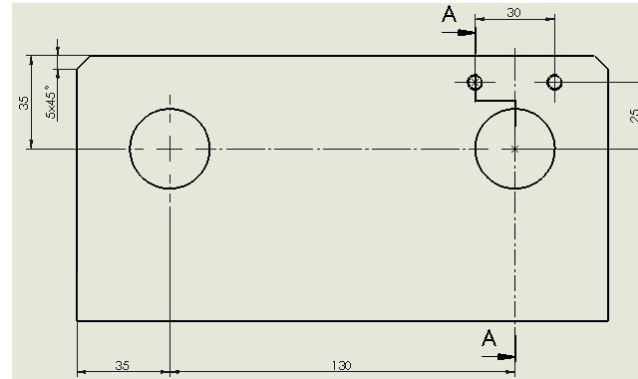

Fig8
- The extension line of the 130 mm dimension intersects the dimension line of the 30 mm dimension; what's more the extension line crosses the dimension number which is a serious error. Drag the 35 mm and the 130 mm dimensions to the lower side of the main view. Take care to make the dimensionlines collinear. Drag the complete main view upward if it is necessary (Fig8).
The dimension network of the main view is satisfying (Fig8).